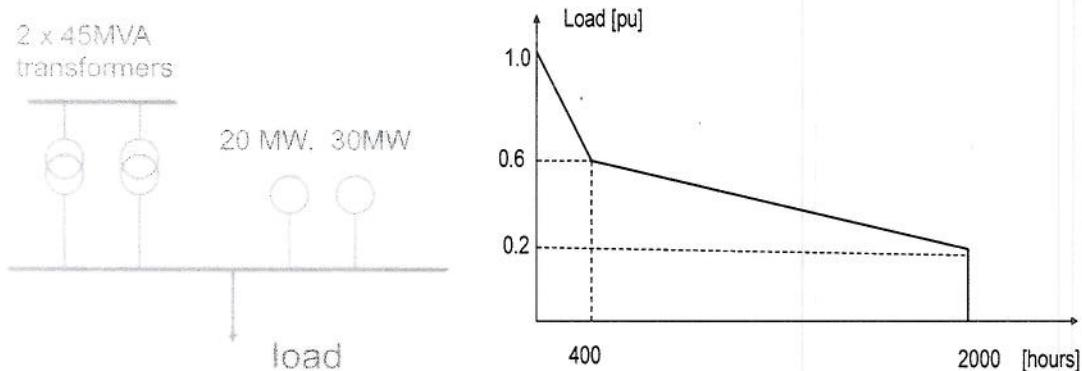

Figure 4, Substation arrangement and load duration curve.
- b) Two generators of capacities 20 MW and 30 MW and fuelled by landfill gas are connected to a 66 kV substation as shown in Figure 4. The figure also shows the load duration curve for winter of the load connected to this network. Quantify the contribution to network security that would be provided by the two generators if the availabilities of the individual generation units are 85% for the 20 MW unit and 90% for the 30 MW unit. [10]